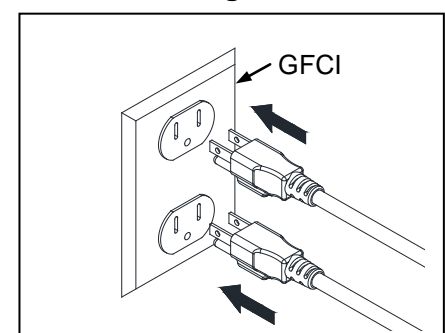

Fig. 8
- Plug pump and transformer into GFCI rated outlet. Fig. 8